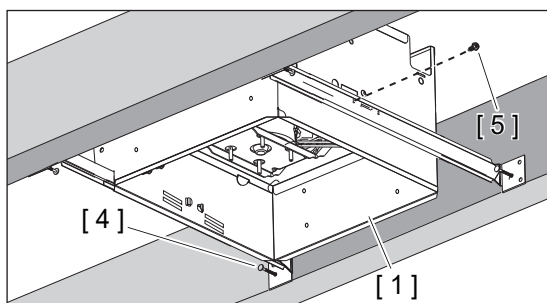

Fig 8
2. Insert the Fan Body [1] between joists. (Fig 8)
3. Secure the Brackets [3] to joists with the Long Screws [4]. (Fig 8)
4. Find the hole in the center of each overlapped pair of Brackets [3]. Install one Short Screw [5] in each hole, close to the middle of the Fan Body [1]. (Fig 8)